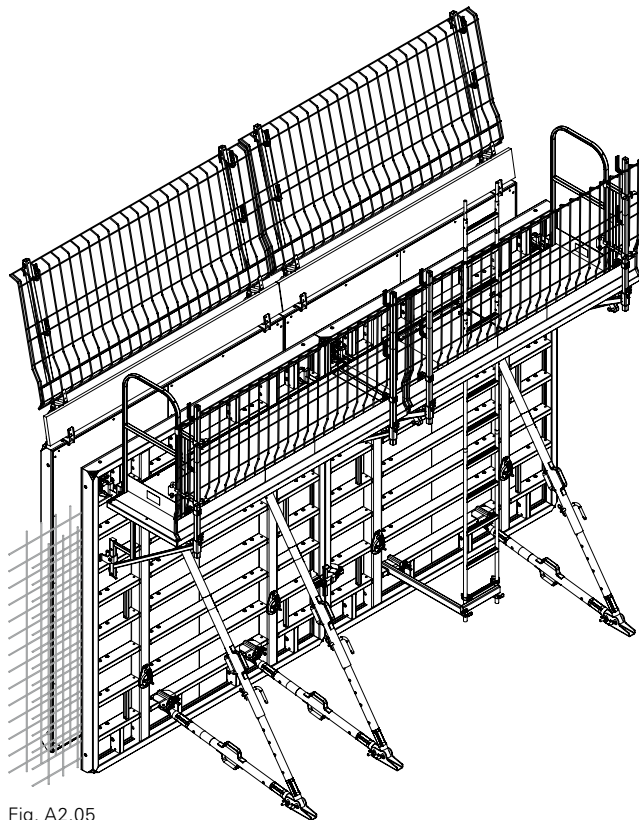

Fig. A2.05
8. Mount board under the Side Mesh Barrier. (Fig. A2.05)
From a working platform. (Fig. A2.05)
1. Remove board from under the Side Mesh Barrier. (Fig. A2.05)